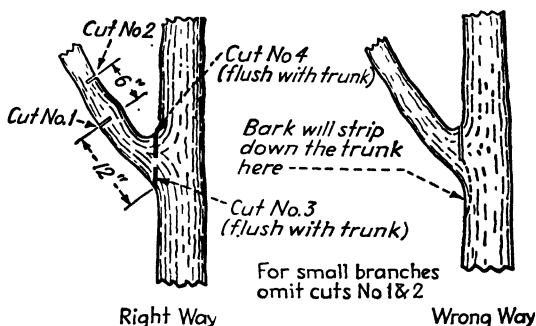

FIG. 28-8. Steps in right and wrong removal of a large side limb. (Courtesy REA.)
**Removing Large Branches.** The procedure in the removal of a large side limb is shown in Fig. 28-8. The first cut is an undercut 10 to 12 in. out from the place where the final cut is to be made. This cut should be as deep as convenient. The sawing is usually continued until the weight of the limb binds the saw. The second cut is made about 6 in. farther out on the upper side of the branch. The reason for shifting out a few inches is to prevent the bark from being stripped back beyond the point of the final cut when the limb falls. The third cut is made from below close to the crotch or trunk of the tree. The fourth is from above, also